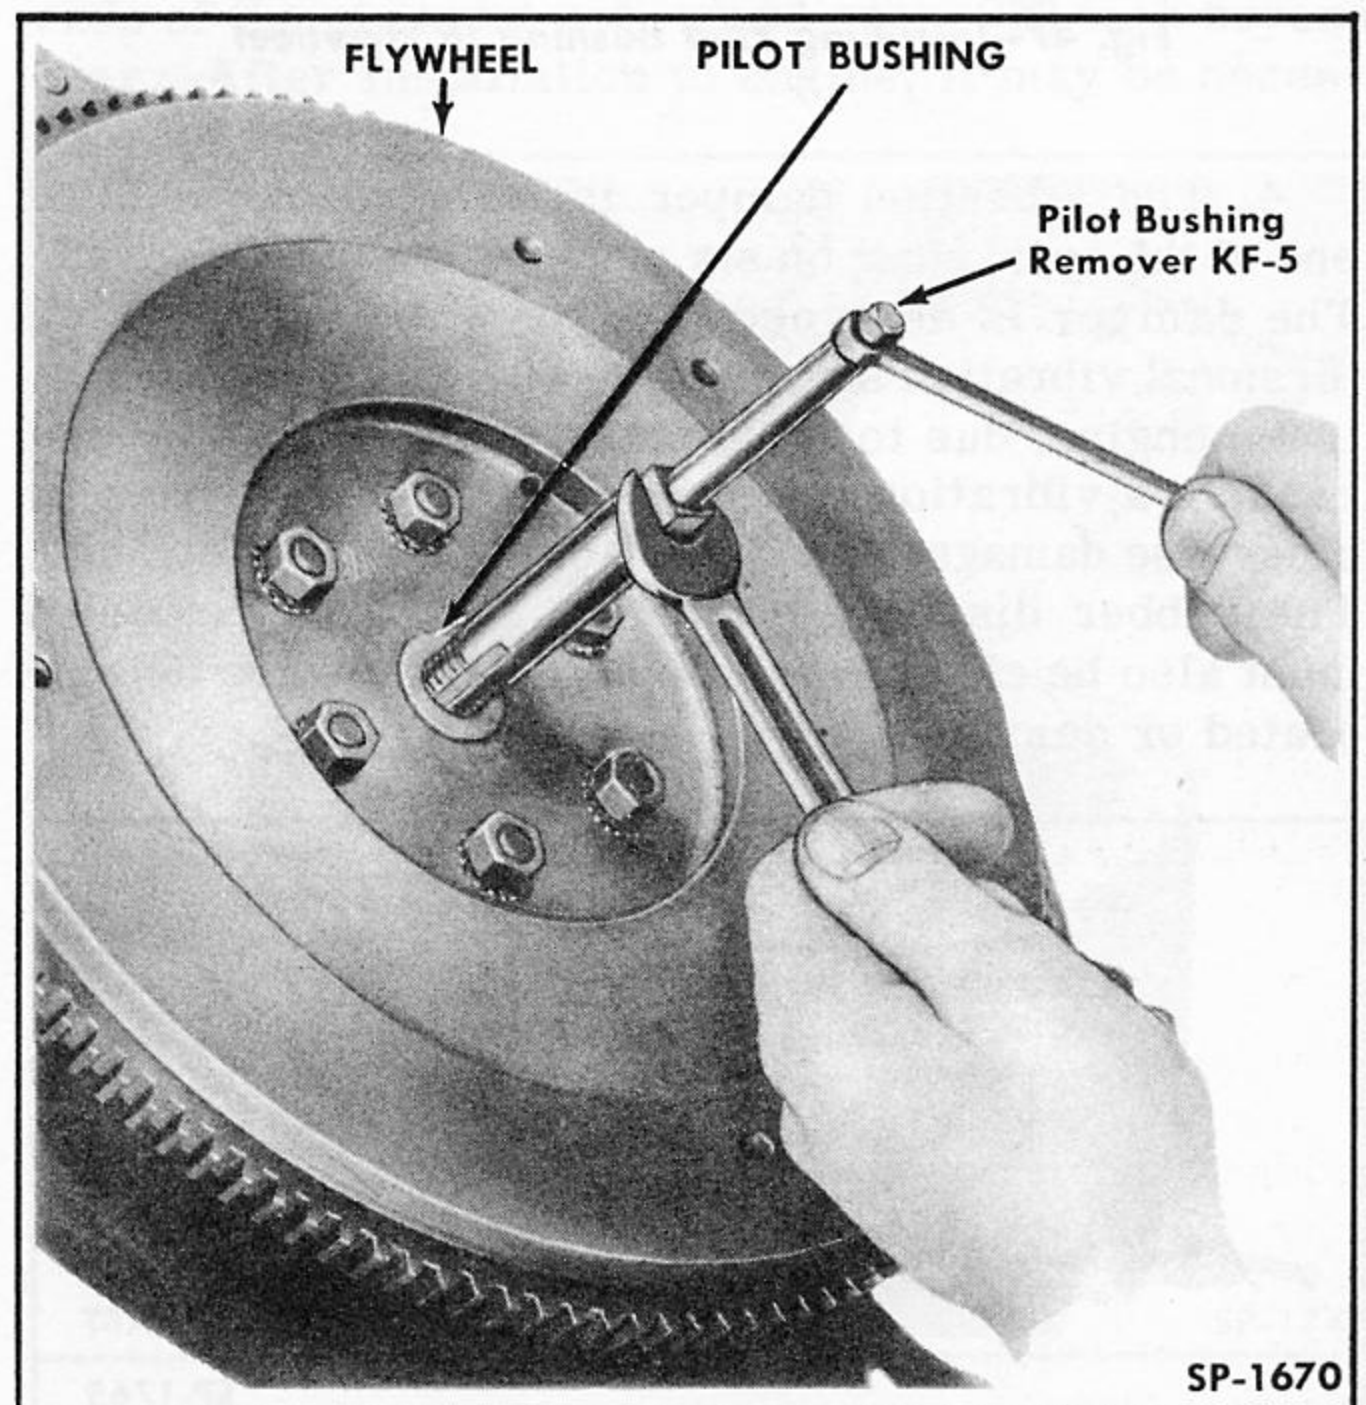

Fig. 46—Removing Pilot Bushing from Flywheel
3. Inspect transmission drive pinion shaft pilot bushing which is pressed into center of flywheel. If bushing is worn or damaged, it should be removed, using Pilot Bushing Remover KF-5. Bushing can also be replaced with engine in vehicle after transmission and clutch are removed. Screw tapered end of tool into damaged bushing, allowing tool to cut its own threads until a solid grip is obtained. Insert puller screw and rotate it until bushing is forced out of flywheel (Fig. 46). To install a new bushing, slide the